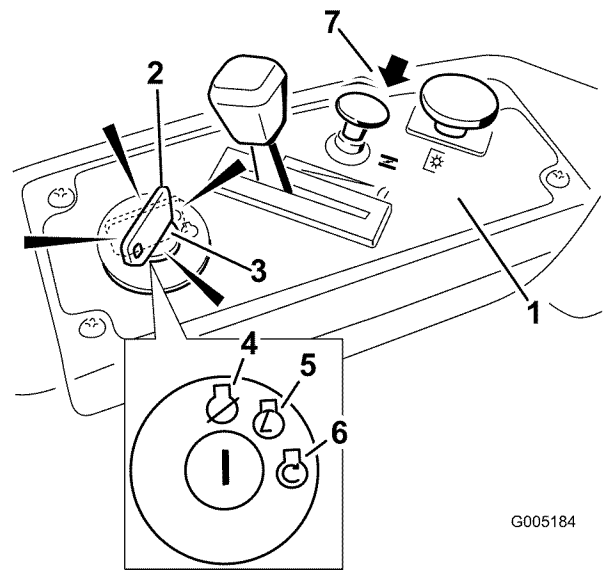

Figure 13
- Turn the ignition key to Start to energize the starter. When the engine starts, release the key (Figure 13).
- After the engine starts, push down on the Choke control (Figure 13). If the engine stalls or hesitates, pull up on the Choke control and let the engine run for a few seconds. Then push down on the Choke control. Repeat this as required.
3. Turn the ignition key to Off (Figure 13) and remove the key.